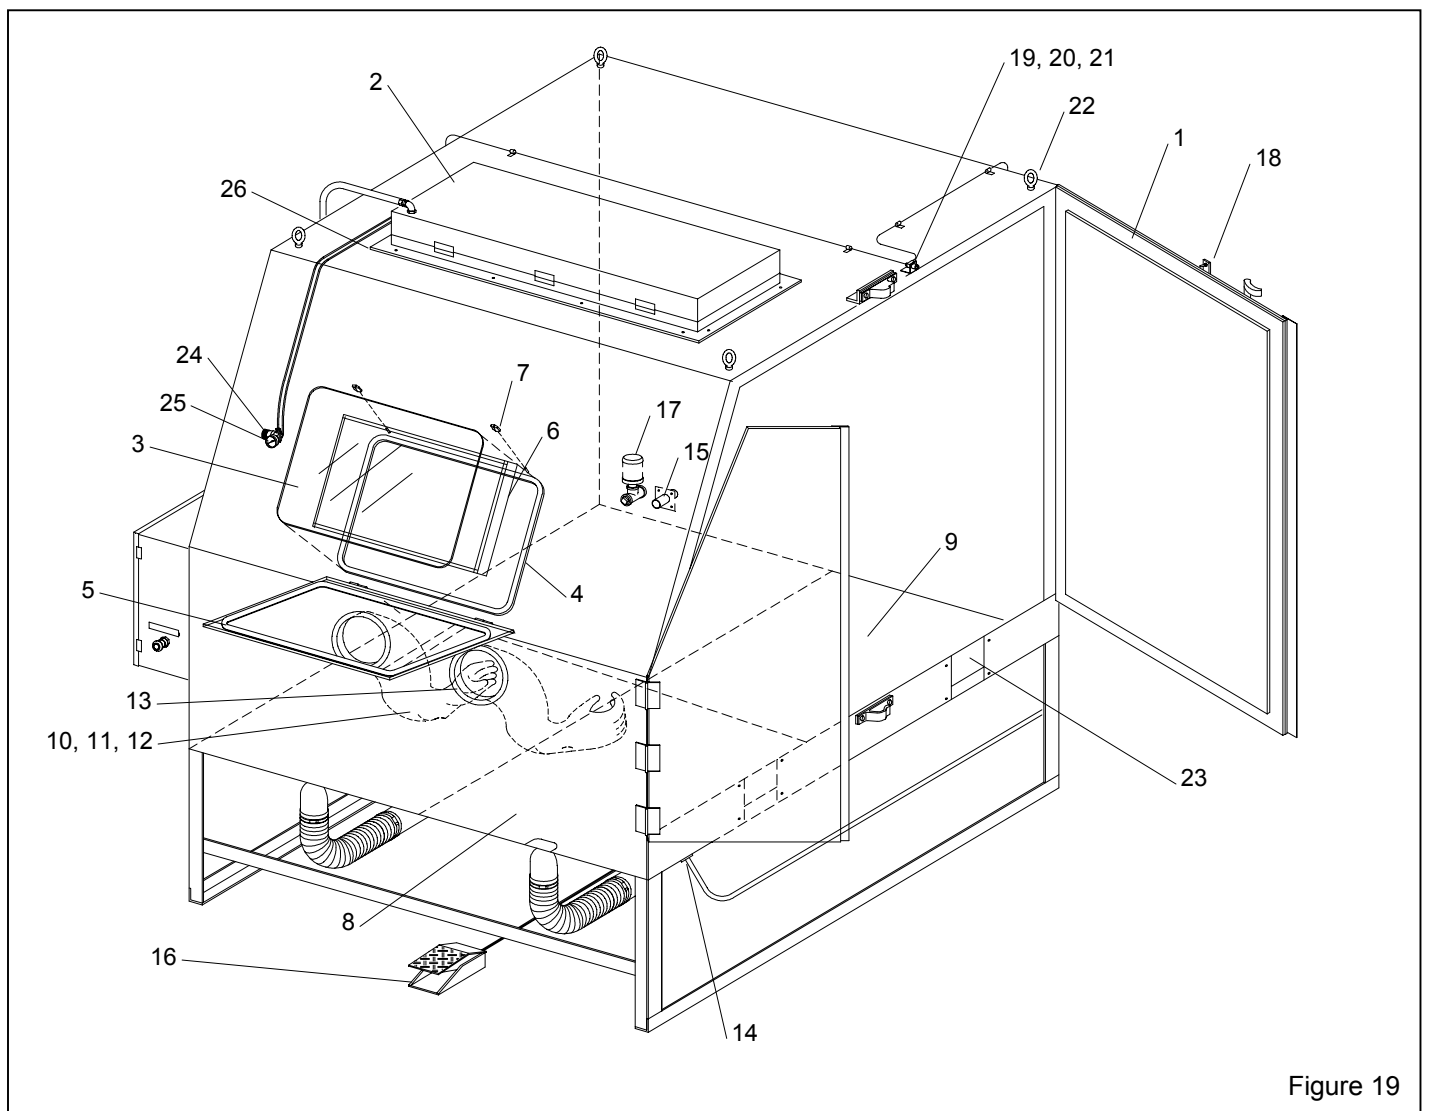

Figure 19
9.2 Cabinet Replacement Parts, Figure 19